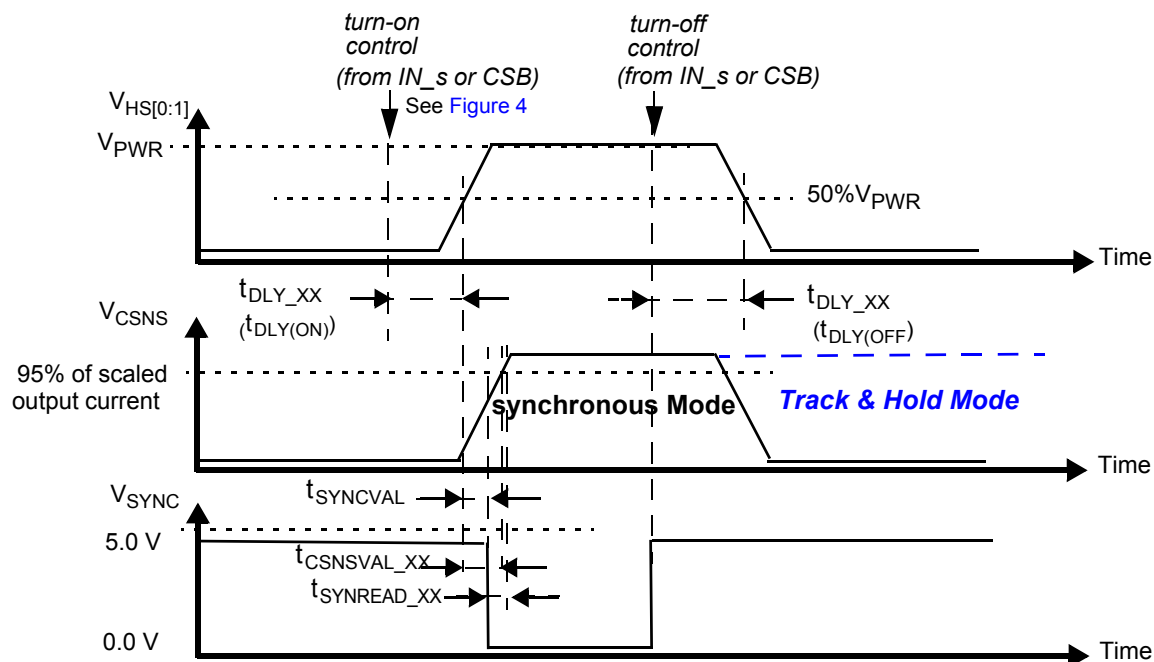

Figure 9. Synchronous and track-and-hold current sensing modes: associated delay & settling times
29. Time required to switch off the channel after detection of overtemperature (OT), overcurrent (OC), SC or UV error (time measured between start of the negative edge on the FSB pin and the falling edge on the output voltage until $V(HS[0:1]) = 50\%$ of V_{PWR}).
30. Settling time (= $t_{CSNSVAL_XX}$), SYNC output signal delay (= $t_{SYNCVAL_XX}$) and Read-out delay (= $t_{SYNREAD_XX}$) are defined for a stepped load current ($100\text{ mA} < I(\text{LOAD}) < I_{OCLX_A}$ FOR $CSNS_RATIO_S = 1$, AND $300\text{ mA} < I(\text{LOAD}) < I_{OCLX_A_0}$ FOR $CSNS_RATIO_S = 0$). (see Figure 9 and Output current monitoring \(CSNS\))
The CS pin allows independent current monitoring of channel 0 or channel 1 up to the steady-state overcurrent threshold. It can also be used to sense the device temperature. The different functions are selected by setting bits CSNS1_en and CSNS0_en to the appropriate value (Table 23). When the CSNS pin is sensed during switch-off in the (optional) track & hold mode (see Figure 9), it outputs the scaled value of the load current as it was just before turn-Off. When several devices share the same pull-down resistor, the CSNS pins of devices the current of which is not monitored must be tri-stated. This is accomplished by setting CSNS0_en = 0 and CSNS1_en = 0 in the GCR register (Table 10). Settling time ($t_{CSNSVAL_XX}$) is defined as the time between the instant at the middle of the output voltage's rising edge ($HS[0:1] = 50\%$ of V_{PWR}), and the instant at which the voltage on the CSNS-pin has settled to $\pm 5.0\%$ of its final value. Anytime an overcurrent window is active, the CSNS pin is disabled (see Overcurrent detection on resistive and inductive loads). The current and temperature sensing functions are unavailable in Fail-safe mode and in Normal mode when operating without the V_{DD} supply voltage. In order to generate a voltage output, a pull-down resistor is required ($R(CSNS) = 1.0\text{ k}\Omega$ typ. and $470 < R(CSNS) < 10\text{ k}$). When the current sense resistor connected to the CSNS pin is disconnected, the CSNS voltage is clamped to $V_{CL(CSNS)}$. The CSNS pin can source currents up to about 5.6 mA.
To synchronize current sensing with an external process, the SYNC signal can be connected to a digital input of an external MCU. SYNC is asserted logic low when the current sense signal is accurate and ready to be read. The current sense signal on the CSNS pin has the specified accuracy $t_{SYNCREAD_XX}$ seconds after the falling edge on the SYNC pin (Figure 9) and remains valid until a rising edge is generated. The rising edge that is generated by the SYNC pin at the turn-OFF instant (internal or external) may also be used to implement synchronization with the external MCU. Parameter $t_{SYNCVAL_XX}$ is defined as the time between the instant at the middle of the output-voltage rising edge ($HS[0:1] = 50\%$ of V_{PWR}), and the instant at which the voltage on the SYNC-pin drops below 0.4 V (V_{SOL}). The SYNC pins of different devices can be connected together to save μ -controller input channels. However, in this configuration, the CSNS function of only one device should be active at a time. Otherwise, the MCU does not determine the origin of the SYNC signal. The SYNC pin is open drain and requires an external pull-up resistor to VDD.